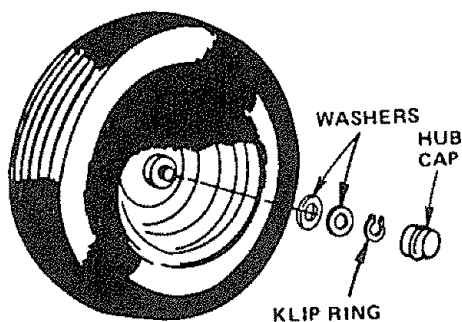

FIGURE 12
- d. Removing wheel for tire repair (Fig. 12).